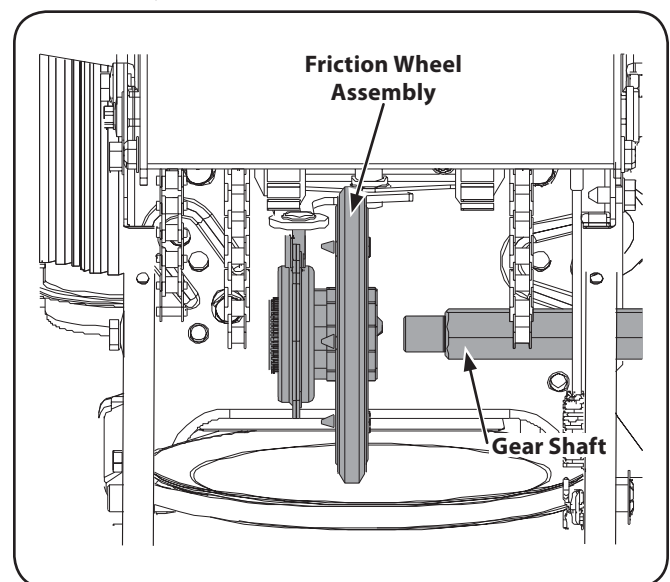

Figure 7-9
- Move the gear shaft to the right and slide the friction wheel assembly from the shaft. See Fig. 7-9.
10. Position the friction wheel assembly up onto the pin of the shift rod assembly, and slide the shaft through the assembly. See Fig. 7-9. Reassemble in reverse order.